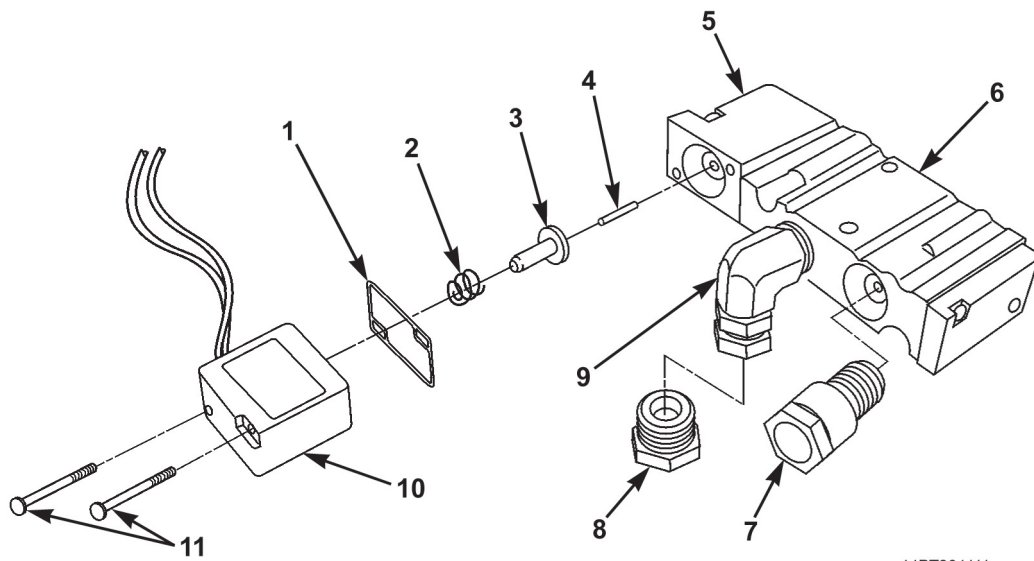

Figure 8. Valve Body Fittings and Solenoid Assembly.
8. Apply pipe sealing compound to elbow (Figure 8, Item 9) and install elbow on valve body (Figure 8, Item 6).
9. Install gasket (Figure 8, Item 1) on filter housing (Figure 8, Item 5).
10. Install pin (Figure 8, Item 4) in plunger (Figure 8, Item 3).
11. Position plunger (Figure 8, Item 3) and spring (Figure 8, Item 2) on solenoid (Figure 8, Item 10).
12. Position solenoid (Figure 8, Item 10) on filter housing (Figure 8, Item 5) and install two screws (Figure 8, Item 11).
13. Apply pipe sealing compound to fitting (Figure 8, Item 8) and install fitting on elbow (Figure 8, Item 9).
14. Apply pipe sealing compound to fitting (Figure 8, Item 7) and install fitting on valve body (Figure 8, Item 6).